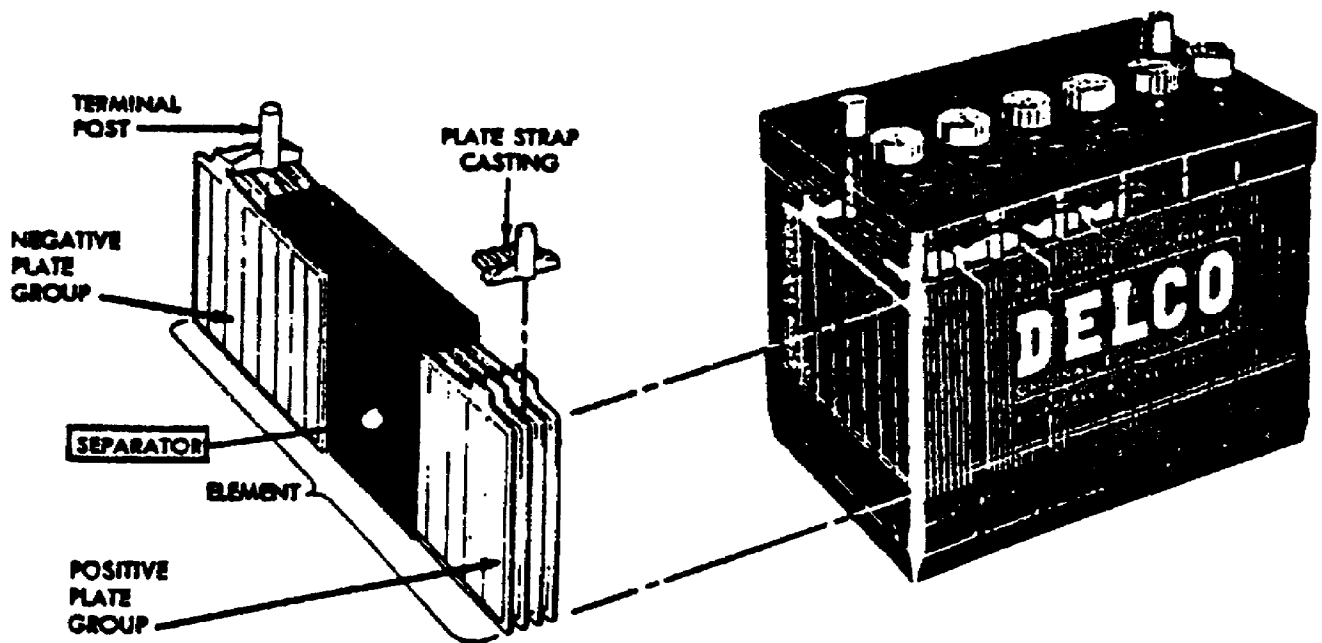

Figure 2-1. Negative and Positive Plate Group With Separators.
(1) A cell consists of a compartment made of hard rubber, plastic, or other bituminous material into which the cell element is placed. The cell element consists of two types of lead plates, known as positive and negative plates. These plates (Figure 2-1) are insulated from each other by suitable separators (usually made of plastic, rubber, or glass) and submerged in a sulfuric acid solution (electrolyte).